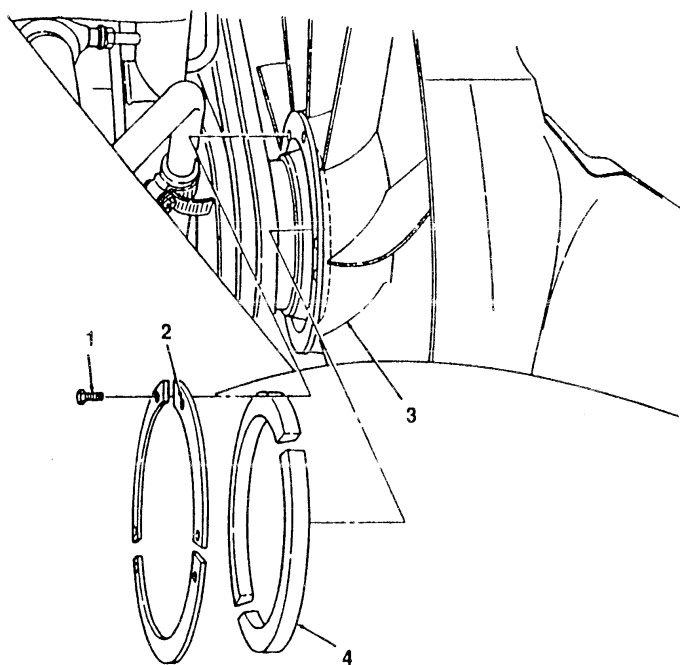

FIGURE 3-18
- E. Remove six screws (1) and three retaining plates (2) from fan drive (3). (see figure 3-18)
- F. Remove friction lining (4) from fan drive (3). (see figure 3-18)
- G. Install new NSN 2930-01-189-8643 friction lining (4) in fan drive (3). (see figure 3-18)
- H. Install existing three retaining plates (2) to fan drive (3) and secure with six existing screws(1).(see figure 3-18) Tighten screws (1).